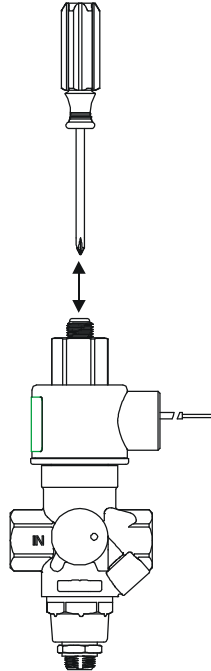

Figure 6: Manual Override Operation
c. Wait 15 minutes. Use manual override button (option) on some BGX models by depressing the reset (see Figure 6) if there is no power to the solenoid. Releasing pressure on the reset allows the button to return to its original position and internally open the valve, allowing gas to flow to the heater.